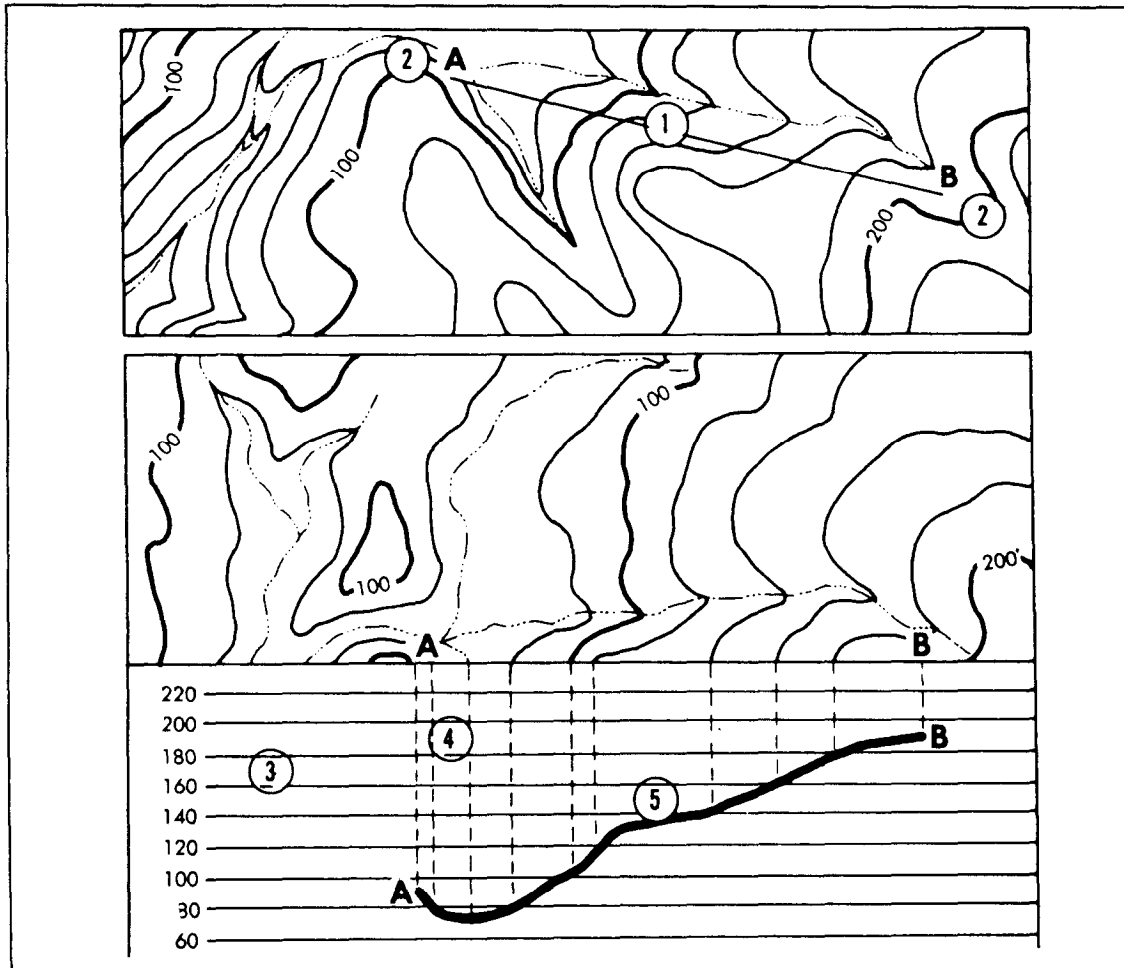

Figure 7-1. Topographic map example
Step 2. Draw a line across the area to be profiled connecting the two points you have just plotted. This is the profile line. Figure 7-1 shows an example.
Step 8. Draw a dark line connecting the perpendicular lines. Smooth, natural lines represent hills and valleys. V- or U-shaped lines represent streams. Figure 7-1 illustrates a completed profile.